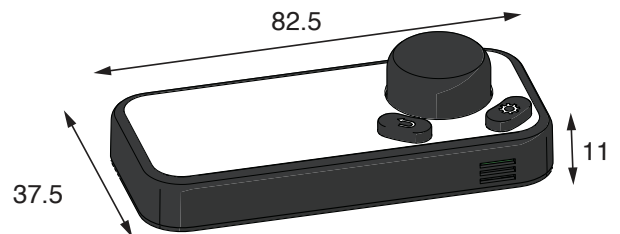

Fig. 5
4. Finally, press the top cover firmly onto the back cover as shown in Fig. 5.